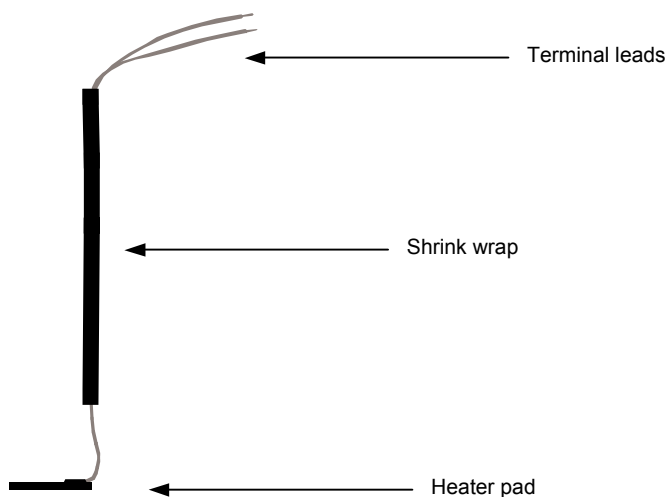

Figure 10.1 MINCO 5951 resistance heater with shrink wrap supporting wires
10.2.4 Bend the wires near the heater pad, so that the pad will be horizontal when the heater is placed into the coffee cup. And use some heat shrink to stiffen the wires, starting approximately 2 cm from the heater pad, and leaving the terminals free. See **Figure 10.1** below.